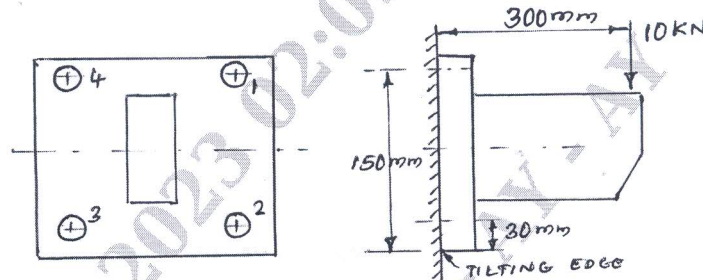

Fig. Q9(a)
- 9 a. A bracket is fixed to the wall by means of four bolts and loaded as shown in Fig.Q9(a). Calculate the size of bolts if the load is 10 kN and allowable shear stress in the bolt material is 40 MPa. (08 Marks)